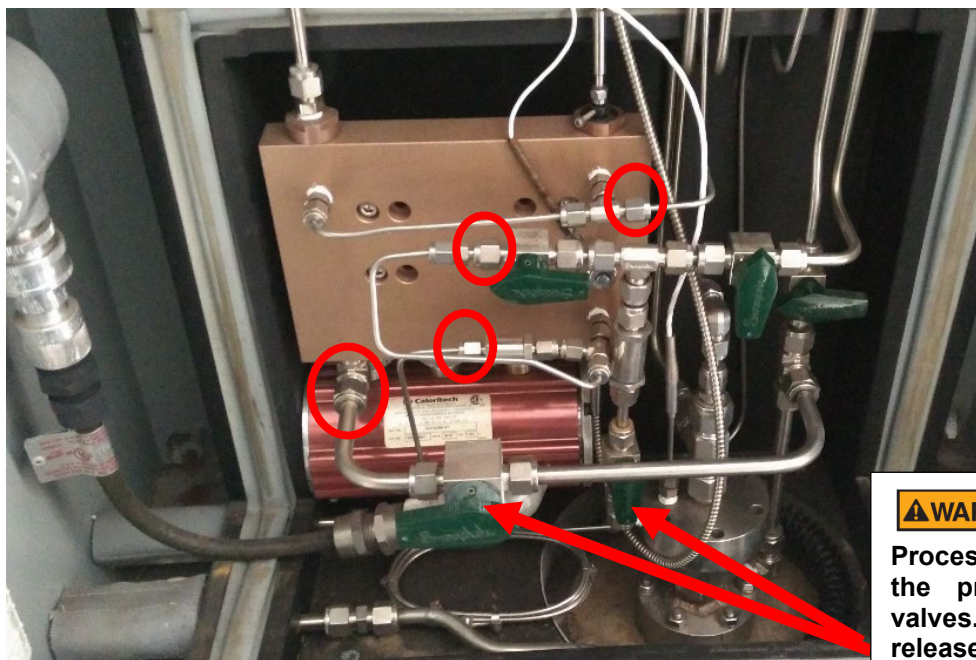

Figure 76: Oven Enclosure
6. Allow zero gas to flow for approximately five (5) minutes to remove all toxic gases from the sample system.
10. To remove the measurement cell block, tubing connected to the measurement cell block assembly must first be removed. Disconnect the fittings circled in Figure 76.
13. Carefully remove the measurement cell block from the analyzer. Disconnect any additional tubing as required to remove the measurement cell block, bearing in mind the warning displayed in Figure 76.